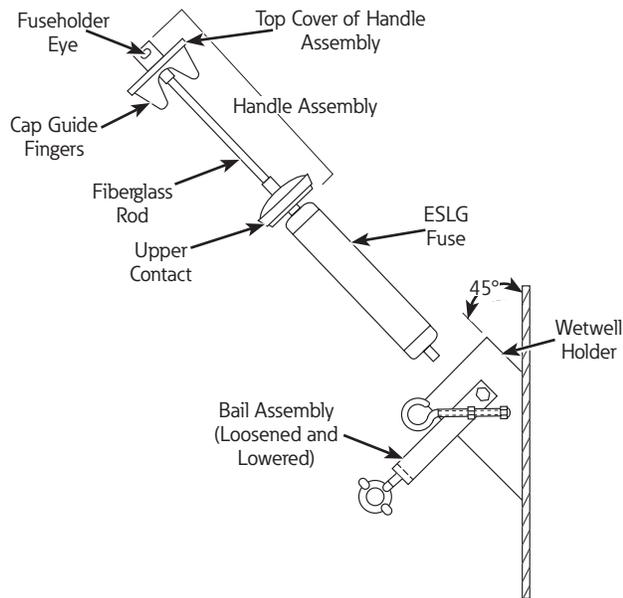

Figure 6. Removal of handle assembly with fuse from wetwell.
- With shotgun stick still loosely attached, slowly lift fuse assembly from wetwell. (Refer to Figure 6.) Remove fuse slowly enough to allow excess oil to drain back into the well. **Fuse should slide smoothly out of holder. If resistance is felt, turn fuse slightly and continue removing.**
- The ELSG fuse is mounted to the handle assembly as shown in Figure 6. Remove the ELSG fuse from the operating handle assembly.